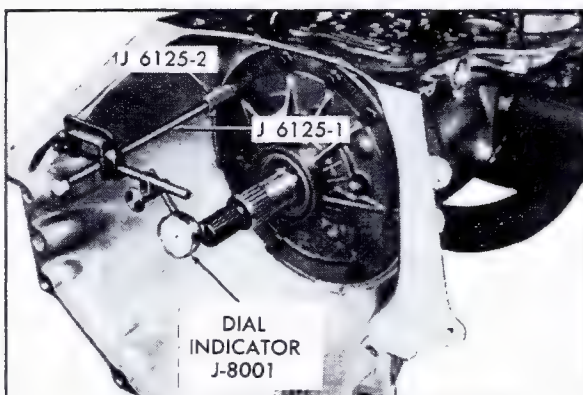

Fig. 7-50 Front Unit End Play Check
6. Pull turbine shaft forward, Fig. 7-50.